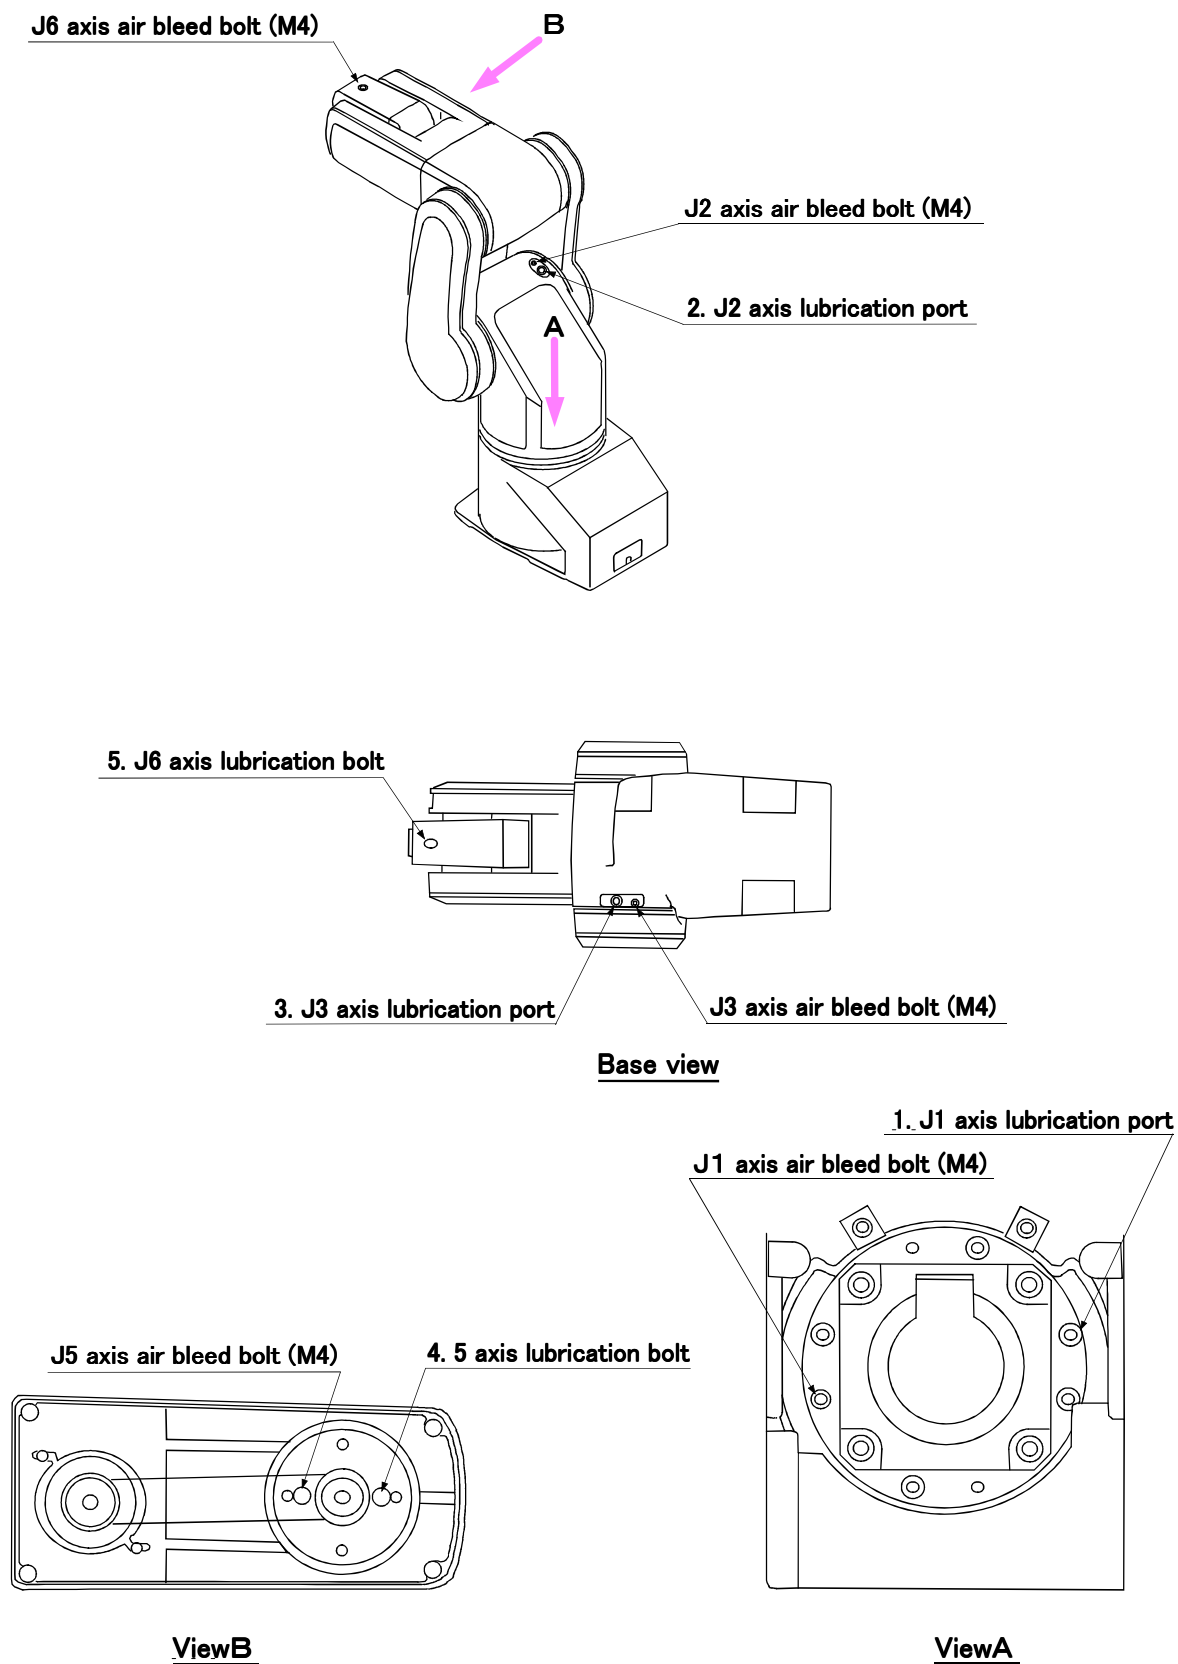
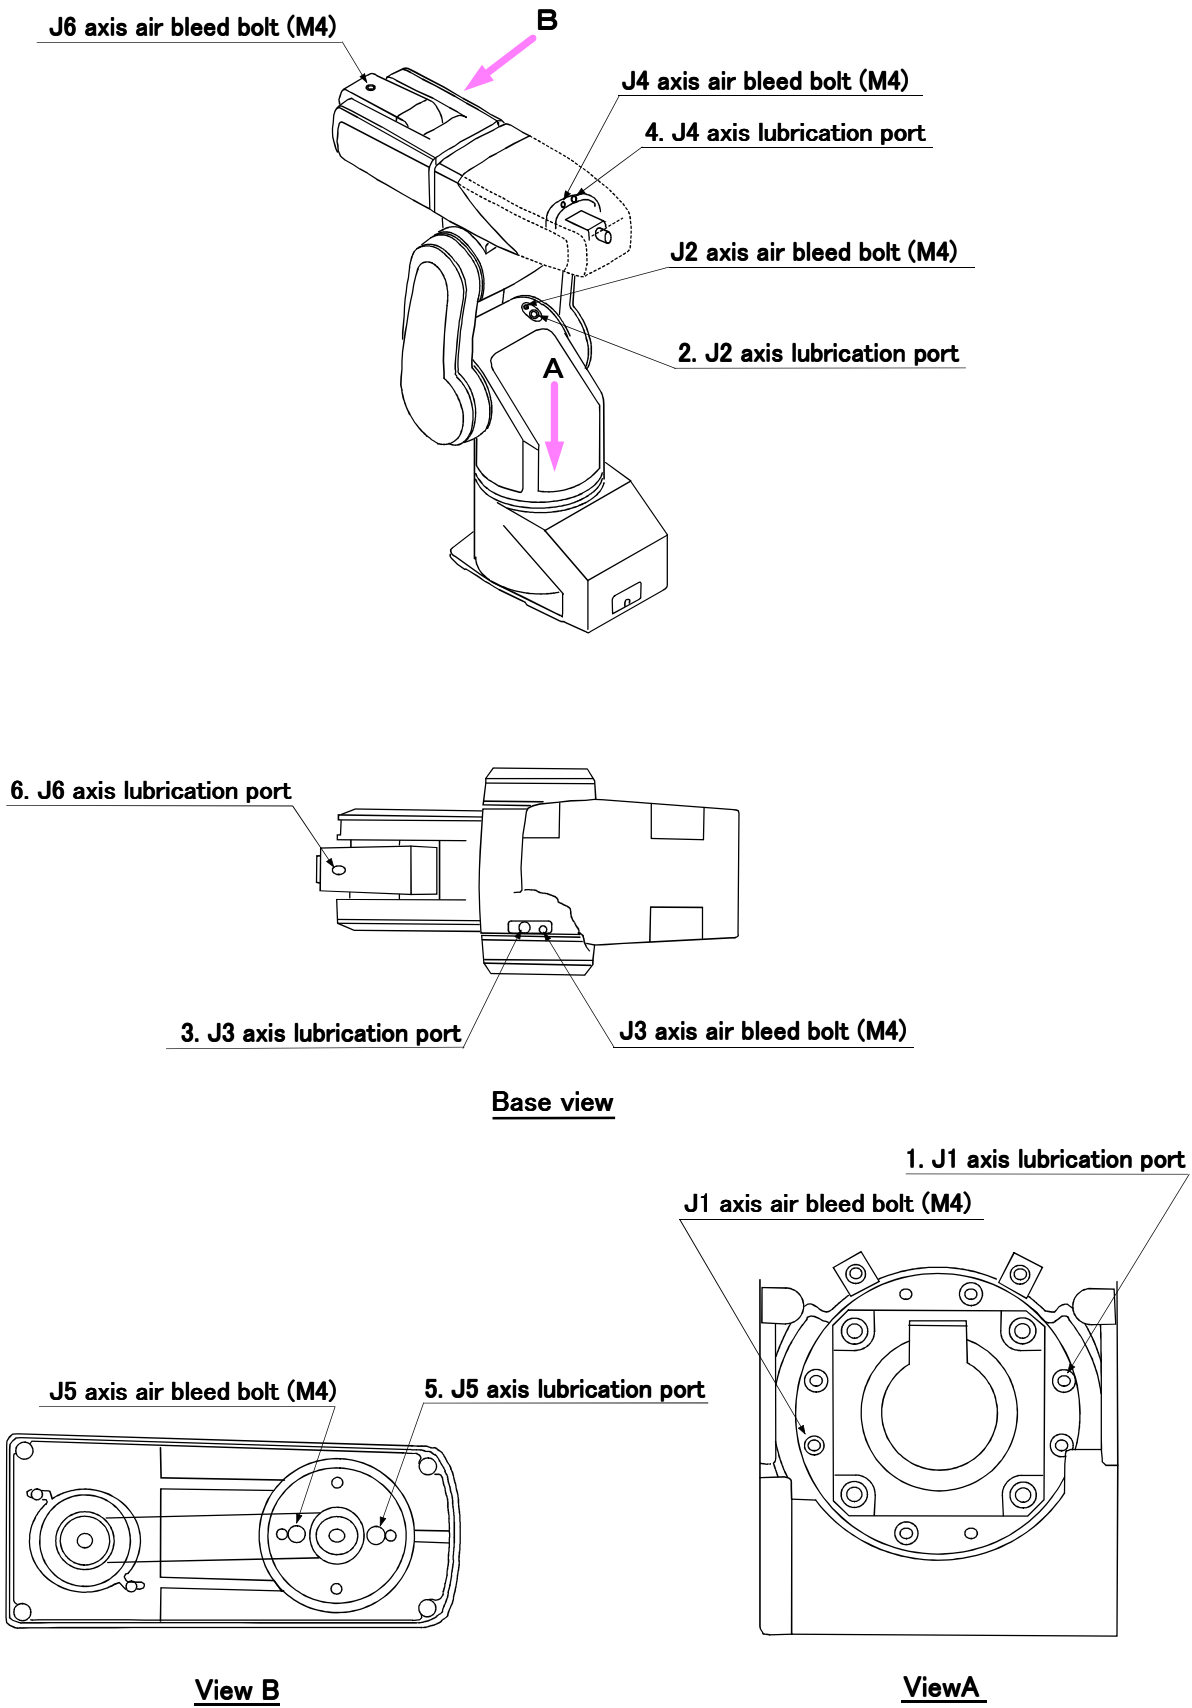

Fig.5-8 : Lubrication positions (5-axis type)
Fig.5-9 : Lubrication positions (6-axis type)
The grease nipple position is shown in Fig. 5-8 for the 5-axis type, and in Fig. 5-9 for the 6-axis type. The lubrication specifications for each place are shown in Table 5-5. Before lubricating, refer to "Fig. 5-4Installing/removing the cover \(5-axis type\)" on page 42 for the 5-axis type, and "Fig. 5-5Installing/removing the cover \(6-axis type\)" on page 42 for the 6-axis type, and remove the required covers.
- The numbers in the above table correspond to the supply positions in Fig. 5-8 and Fig. 5-9.
- 1) Set the 5-axis type robot to the posture shown in Fig. 5-8, 6-axis type robot to the posture shown in Fig. 5-9.